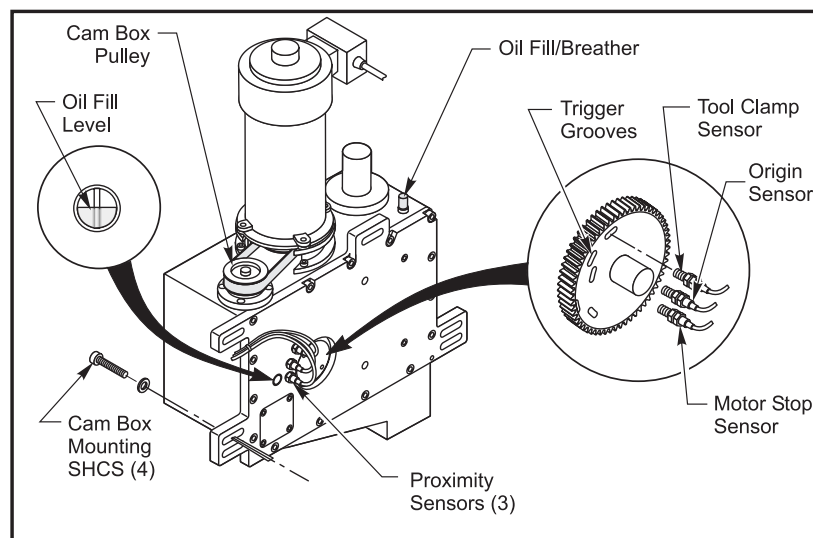

Figure 3.12-16 Proximity Sensor Switch Location
4. Loosen the double nuts retaining the proximity switch. Carefully remove the proximity switch from the cam box assembly. Refer to Figure 3.12-16.
6. Refill the cam box with oil (Penzgear 320) to the fill level line. See Figure 3.12-16.